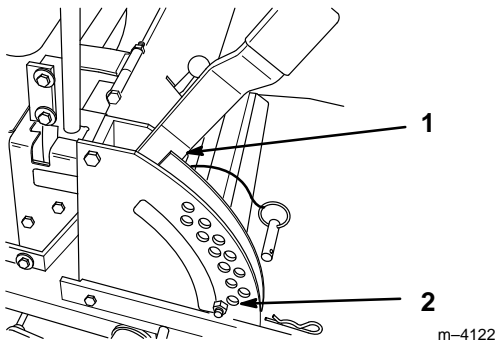
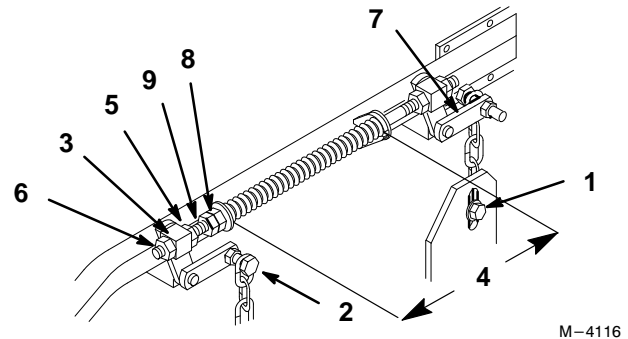

Figure 22
Figure 23
2. Check tire pressure of all four (4) tires. If needed, adjust to 13 psi (90 kPa)
4. Raise the deck to the transport position (Fig. 22). Take force off of the two large deck lift springs by loosening jam nut and front spring nut, in front of each spring, as far as possible (Fig. 23).
5. Place two 1-1/4" (35 mm) thick blocks under rear left and right lower edge of mower. Place one 1-3/8" (44 mm) block under front center lower edge of mower. Not under anti-scalp roller brackets. Lower mower to the 1-1/2" (38 mm) height-of-cut position (Fig. 22).
8. When hardware is loosened, remaining tension in the large support springs will tend to rotate the deck lift handle up, out of the 1-1/2" position. Press down on the rear deck support arm to firmly return the deck lift handle to the 1-1/2" position (Fig. 23).
9. While continuing to press down on rear deck support arm, take the slack out of the rear chain and tighten hardware at the bottom (Fig. 23). Downward pressure may now be released. Repeat for opposite side.
6. Loosen bottom chain bolt in slot at rear of deck. Repeat for opposite side. (Fig. 23).
7. Loosen front and rear locking nut on either side of front swivel. Loosen until front chains are loose and deck is supported by blocks. Repeat for opposite side. (Fig. 23).
14. Raise deck lift lever to the transport position, (Fig. 22).
15. Adjust compression springs by turning the front spring nuts so the distance between the two large washers is 10-1/4" (260 mm). Then tighten jam nut (Fig. 23).